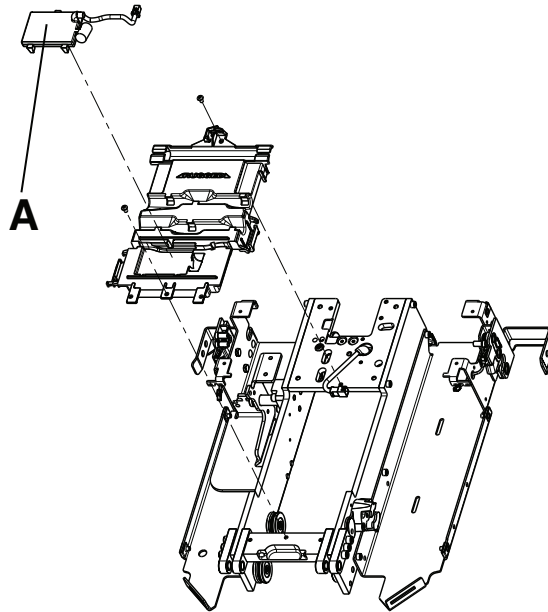

Figure 27 – Communication board assembly
4. Lift up on the trolley communication board (A) to remove (Figure 27). Discard the communication board.